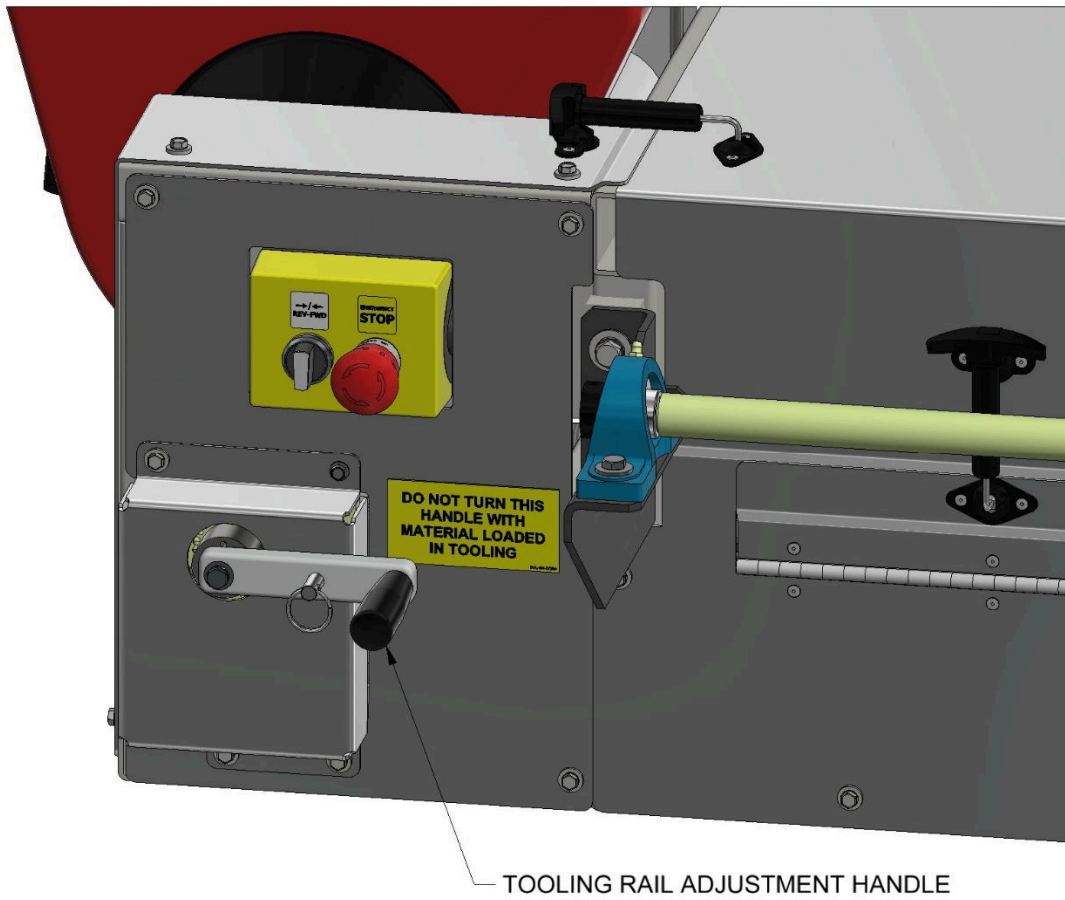
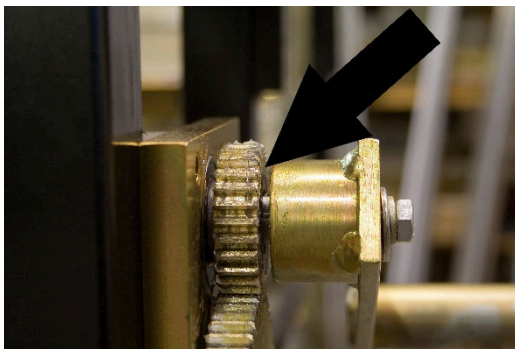
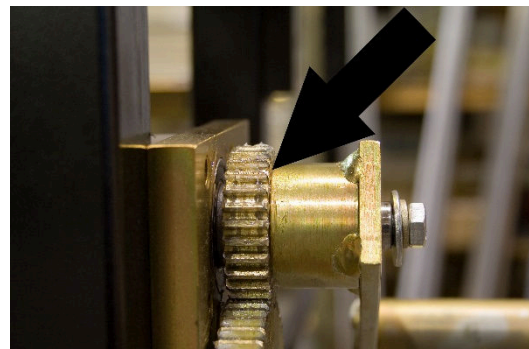

Figure 47: Tooling Rail Adjustment Handle
Figure 48: Disengaged
Figure 49: Engaged
(Figure 47 to Figure 49)
1. Using the Tooling Rail Adjustment Handle (Figure 47) align the notch on the tooling rail marker plate to the alignment notch located on the Left Entry Guide. The Tooling Rail Adjustment Handle is spring loaded to allow it to disengage from the width adjustment gear (Figure 48). Press the handle inward (Figure 49) to engage the width adjustment gear and turn the handle clockwise to move the tooling outward or counter-clockwise to move it inward. Make sure to choose the notch on the marker plate that corresponds to the desired leg configuration as noted on the decal on the marker plate.